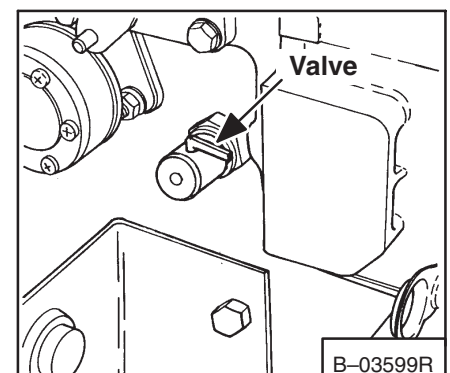

Fig. 1-29 Valve For Removing Coolant (643)
The valve to remove the coolant is on the left side of the engine block (Fig. 1-29).
1. Close the drain valve (Fig. 1-29).